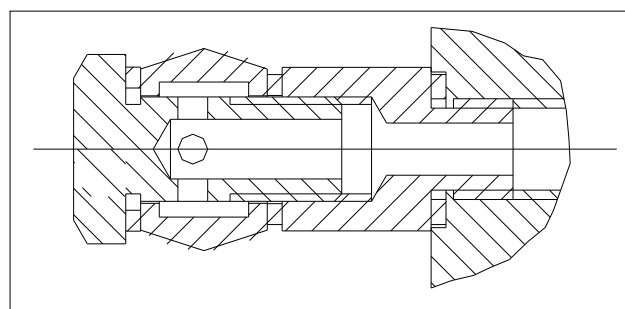

Fig. 33
- ◆ Connect the hydraulic unit to the circuit crossing with a flexible pipe. (**Fig. 33**)
The manufacturer supplies the rack to operate at 400V with a three-phase configuration; if the line voltage is different, the motor and transformer connection must be changed. (Fig. 33) It is also necessary to replace the thermal relay requesting that part from the manufacture and/or service center.